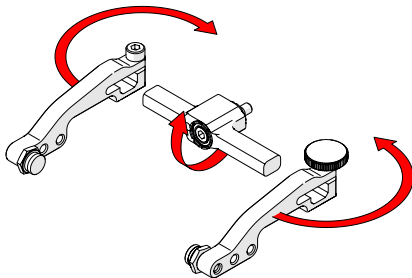

Fig. 83 - Flip yoke and reverse arms
3. Flip the yoke 180° and reverse the probe holder arms (Fig. 83).